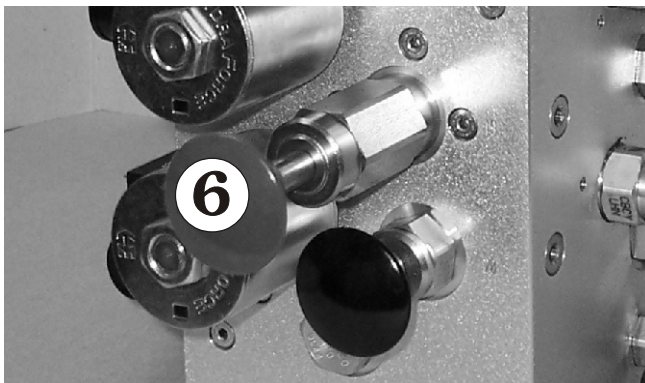

Figure 9.10
4. To release the brakes, pump the hand pump ⑥ 5 - 10 times. (see Figure 9.10). The brakes will now be released and the S3370RT / S2770RT is ready to be pushed or towed.